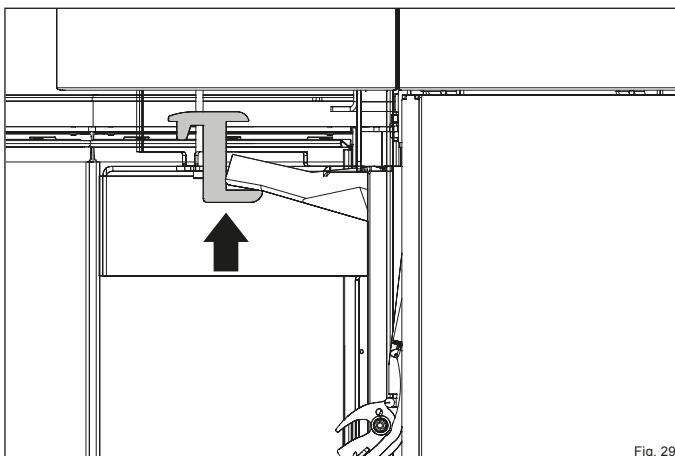

Fig. 29
- ▶ Slide the firebrick retainer upward (Figure 29).